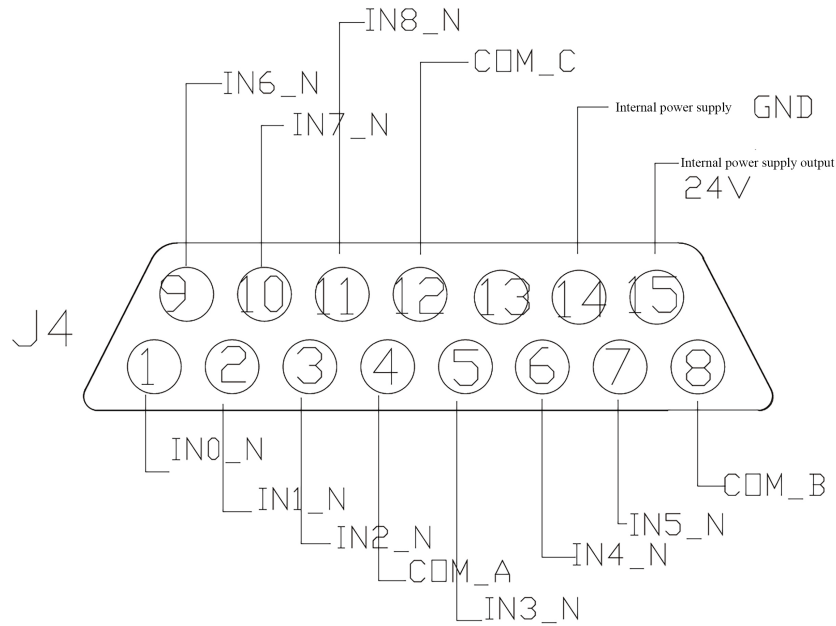

Figure 4
(3) The definition of J4 interface DB15 female (shown in Figure 4)